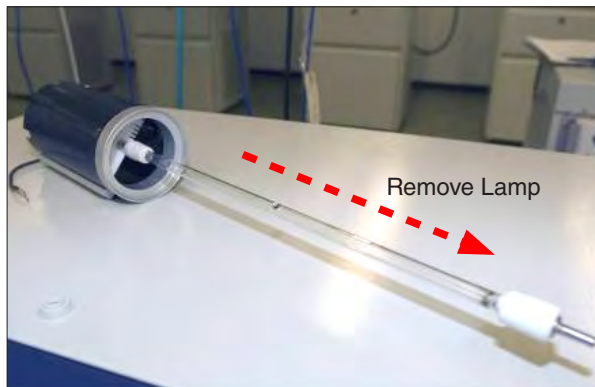

Figure 16.1d: Remove old lamp from holder.
5. While wearing the glove supplied with the lamp, remove the old lamp from the lamp holder (Figure 16.1d).